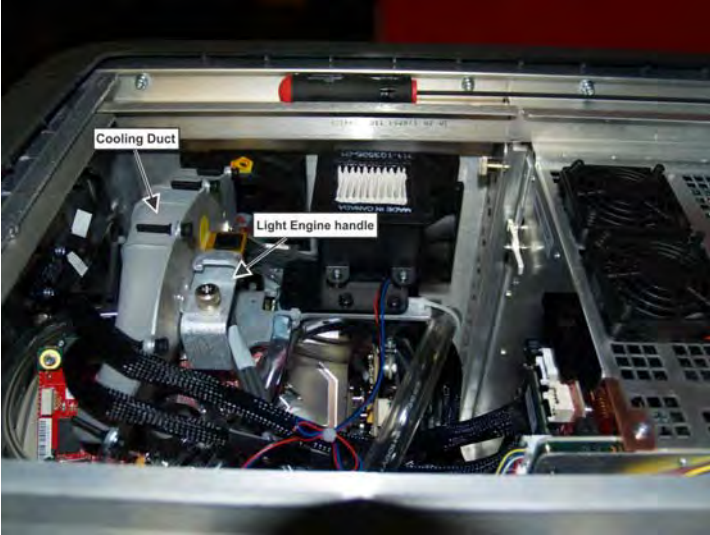

Figure 5-44 Top View of Light Engine
- 13. Using the built-in light engine handle, carefully lift the light engine assembly out of the projector. (Figure 5-44)